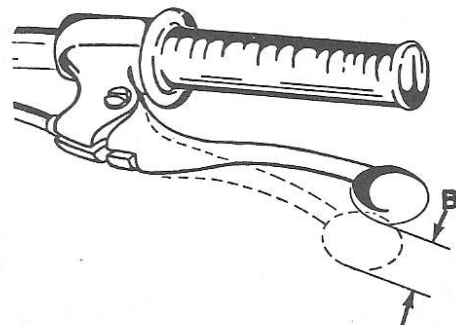

Fig. Y4-16—Brake lever free play (B) should be 9-15 mm (0.35-0.59 in.). Be sure to check and adjust brake pedal free play first.
Adjust the handlebar brake lever by first rotating the rear adjuster (V) to remove as much cable free play as possible. Then rotate the adjuster at the brake lever so there is 9-15 mm (0.35-0.59 in.) free play (B—Fig. Y4-16) at lever end. It may be necessary to repeat adjustment at rear adjuster (V—Fig. Y4-15) to obtain desired free play.